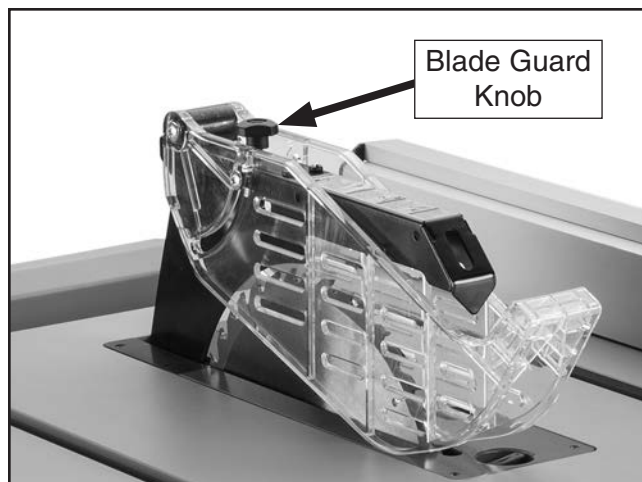

Figure 16. Location of blade guard knob for installing anti-kickback pawls.
6. Loosen blade guard knob (see **Figure 16**), slide upper blade guard assembly toward front of saw, and remove it from spreader.
8. Re-install upper blade guard assembly and tighten blade guard knob (see **Figure 16**).